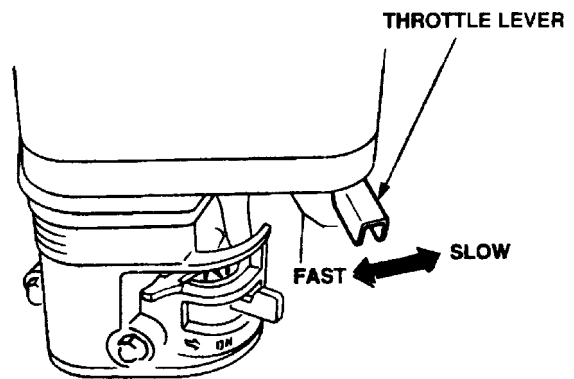

Figure 21. Throttle Lever
- Rotate the **throttle lever** (Figure 21) halfway between **fast** and **slow** for starting. All sawing is done at **full throttle**. The engine governor speed is factory set to ensure optimum blade operating speeds.
9. Rotate the throttle lever (Figure 21) toward full throttle.